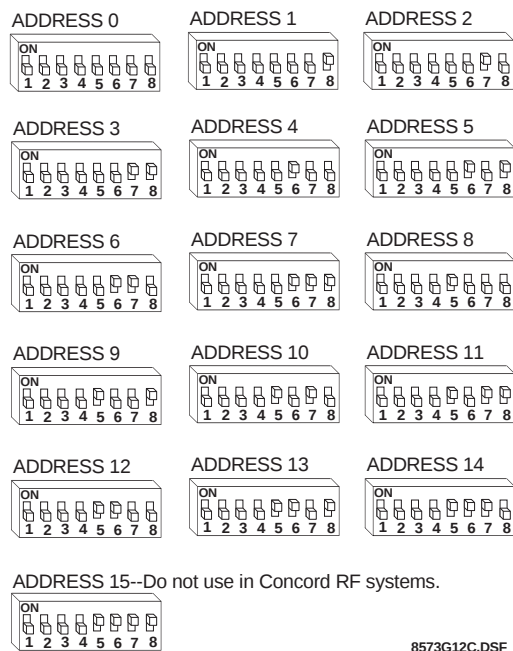

Figure 12. Unit Number DIP Switch Settings
Locate the DIP switches on the module circuit board (see Figure 1) and set them to the desired unit number (0–15) *before* applying power (see Figure 12).
2. Change the DIP switch setting on the module (see Figure 12). Remember, the setting must be different from all other bus devices.